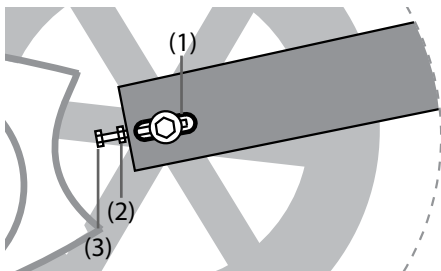

Figure 18
- 2: Loosen the bolts (1) on both sides of the cycle with a 19 mm wrench, see figure 18.
3. Loosen the nuts (2) on the counter bolt on both sides of the cycle using a 10 mm wrench, see figure 18.